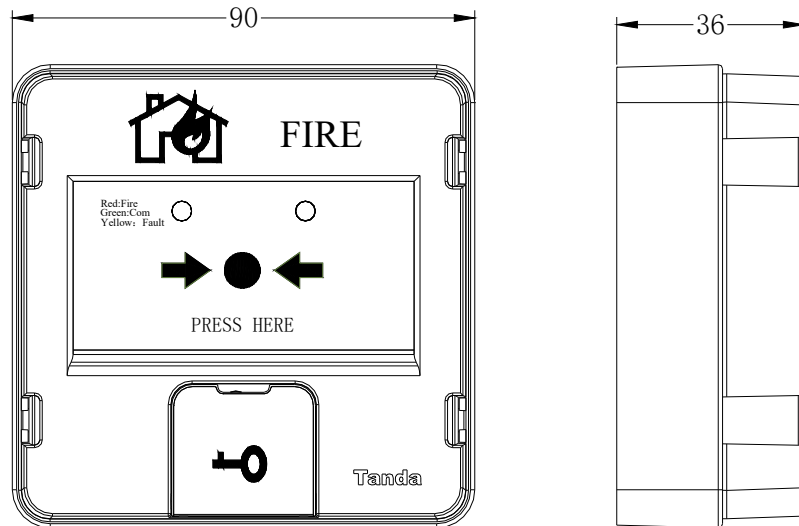

Figure 1 Schematic diagram of the appearance of the MCP
1. The external dimensions of the MCP are shown in Figure 1 (unit: mm):